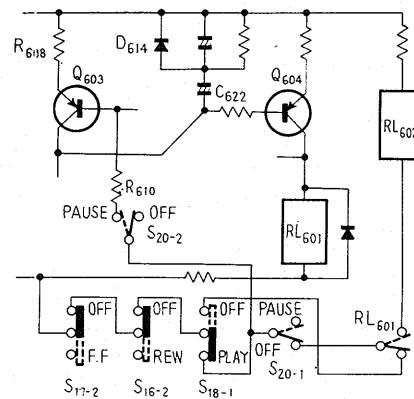

Fig. 12
## • Pause Circuit (Fig. 12)
2. If, under these conditions, the PAUSE switch is depressed, switches ( $S_{20-1}$ ,  $S_{20-2}$ ) go over to the positions indicated by the broken lines, and the base of  $Q_{603}$  is directly biased via  $R_{610} \sim S_{20-2} \sim S_{18-1} \sim S_{16-2} \sim S_{17-2}$ .  $Q_{603}$  comes ON, and  $C_{622}$  is very rapidly discharged via  $C_{622} \sim D_{614} \sim R_{608} \sim Q_{603}$  as shown in Fig. 12.